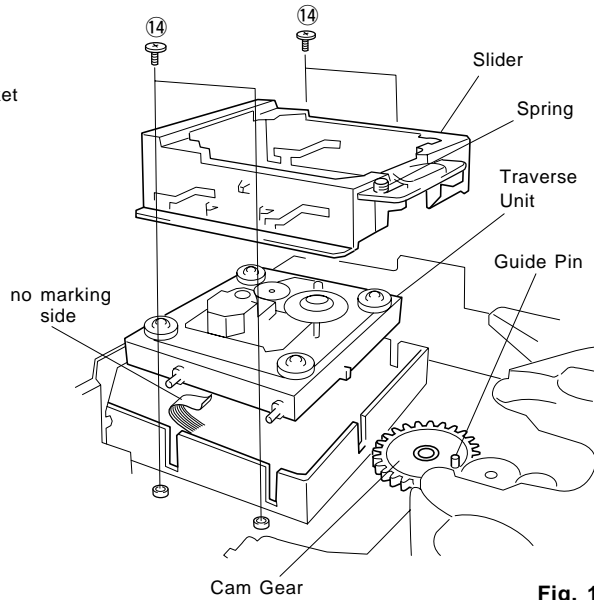

Fig. 11
- d. Remove 4 screws (14) and take out the Slider in Fig. 11.
- f. Remove the Traverse Unit in Fig. 11.
- b. Turn the Cam Gear until its Guide Pin comes to the position as shown in Fig. 11.